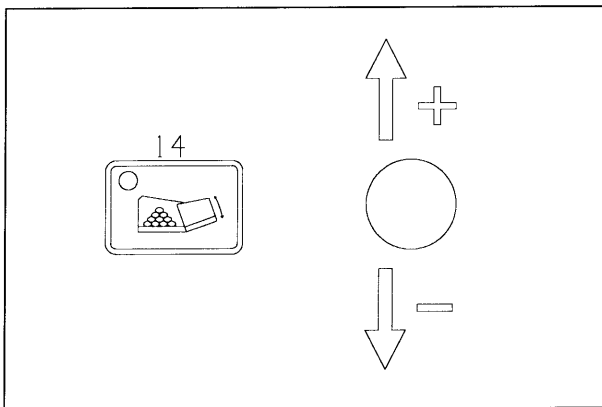

Fig. 44-6
When electronic controls are fitted, press key 14 and then operate toggle switch E (Fig. 44-6).